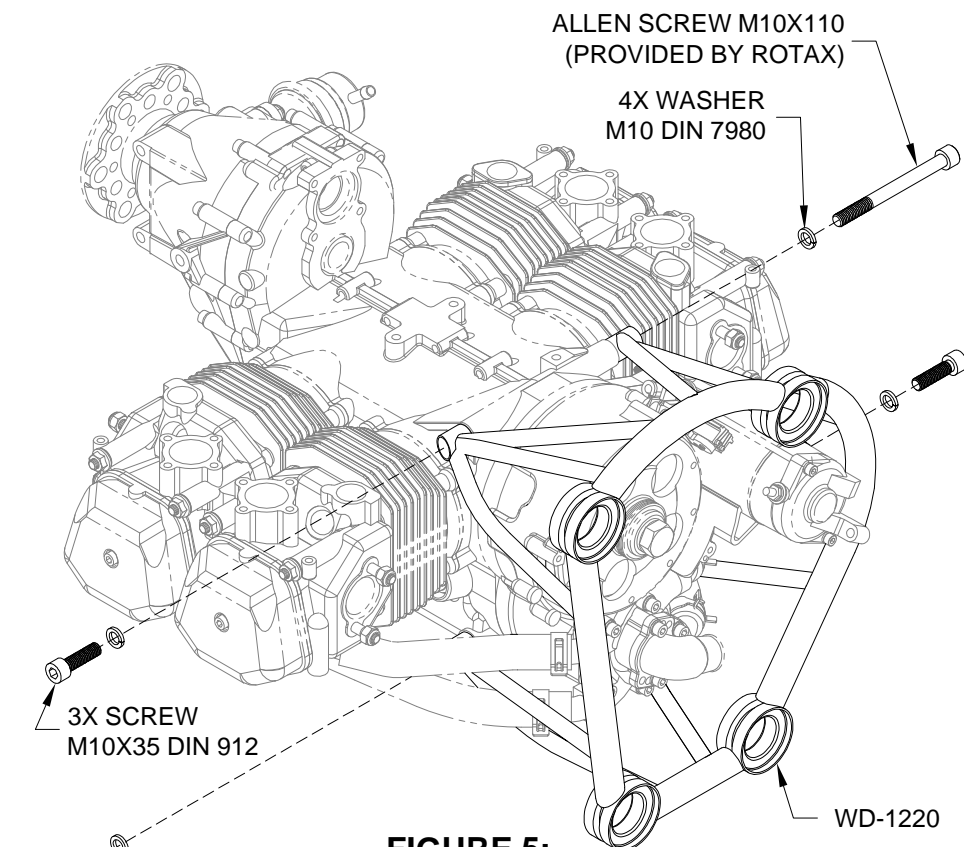

FIGURE 5:
Step 9: Attach the WD-1220 to the engine using the hardware called out in Figure 5 and tighten the right side only. Do not final torque the hardware yet. Leave the left hardware completely loose.